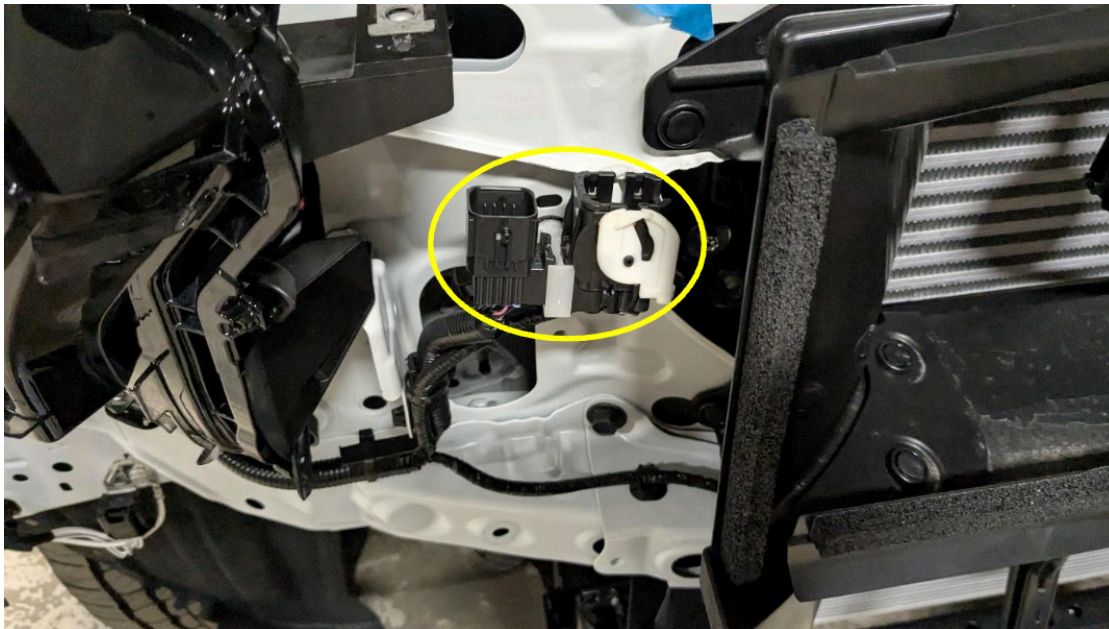

Figure 17
10. Disconnect the wiring harnesses on the passenger's side of the vehicle. (Figure 17)